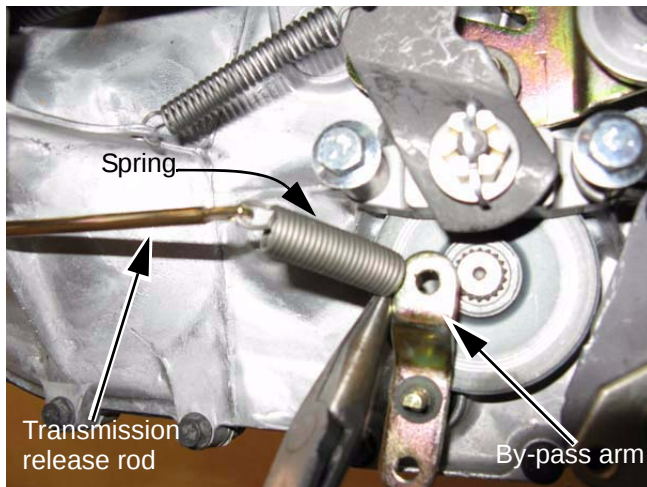

Figure 5.77
12. Disconnect the spring at the end of the transmission release rod from the by-pass arm on the transaxle. See Figure 5.77.